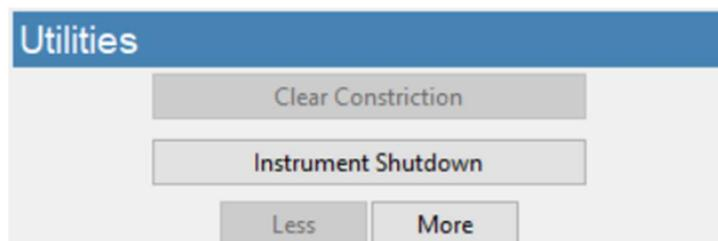

Figure 8. Utilities frame.
- Press the "Clear Constriction" button (Figure 8) and wait for the routine to complete.
- Press the "Instrument Shutdown" button (Figure 8) to begin the automated process.